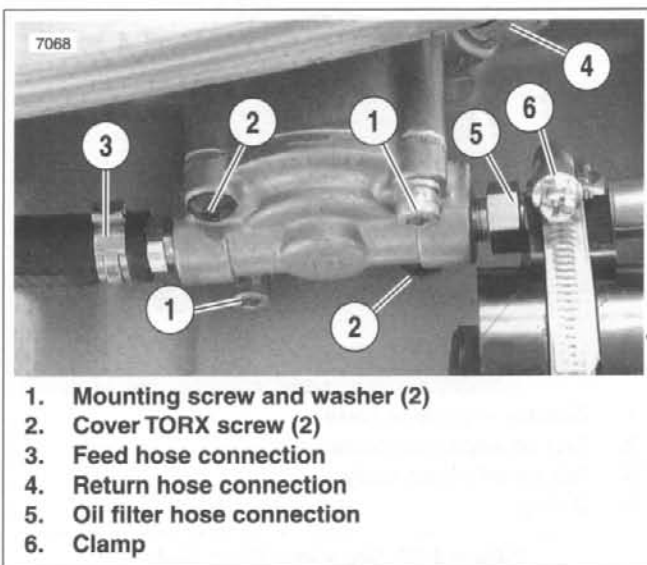

Figure 3-54. Oil Pump Hardware
2. See Figure 3-54. Disconnect feed hose (3).
3. Remove clamp (6) from filter hose. Detach oil filter hose connection (5).
9. See Figure 3-54. Attach return hose connection (4).
10. Secure pump to crankcase with mounting screws (1) and washers. Tighten to 125-150 **in-lbs** (14.1-16.9 Nm).
11. Attach feed hose (3) and oil filter hose connection (5).
12. Attach clamp (6) and canister to hose.